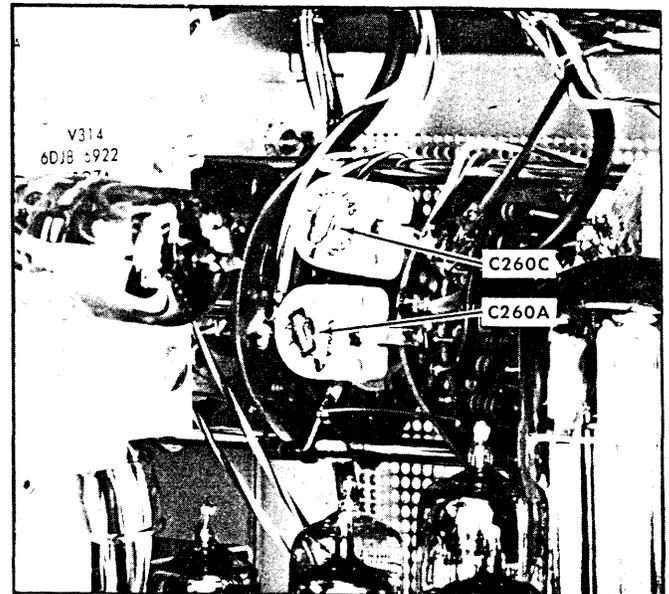

Fig. 6-31. Adjusting Time Base B sweep rate.
- f. Adjust C260A (see Fig. 6-31) so the sweep starts at the leading edge of the ninth time marker.